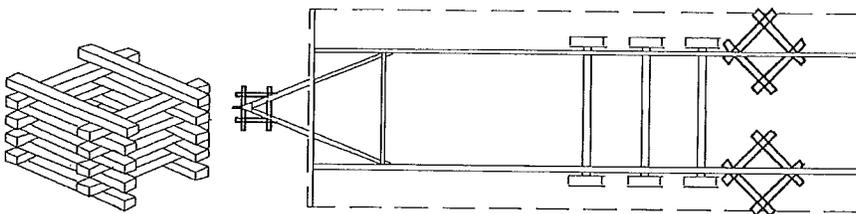

Figure 17. Stack 4" x 6" by 5' long timbers as shown to form safety timbers. Place safety timbers under home behind axle area and under hitch.
Utilize proper cribbing. Manufactured homes weigh several tons. No one should be under the home (whether it is moving or stationary) unless proper cribbing is in place (**Figure 17**). Failure to utilize proper cribbing may result in serious injury or death.
- Make sure adequate safety cribbing (Figure 17) is in place whenever the home is placed on jacks.
2. **Install cribbing.** Install safety cribbing (Figure 17).